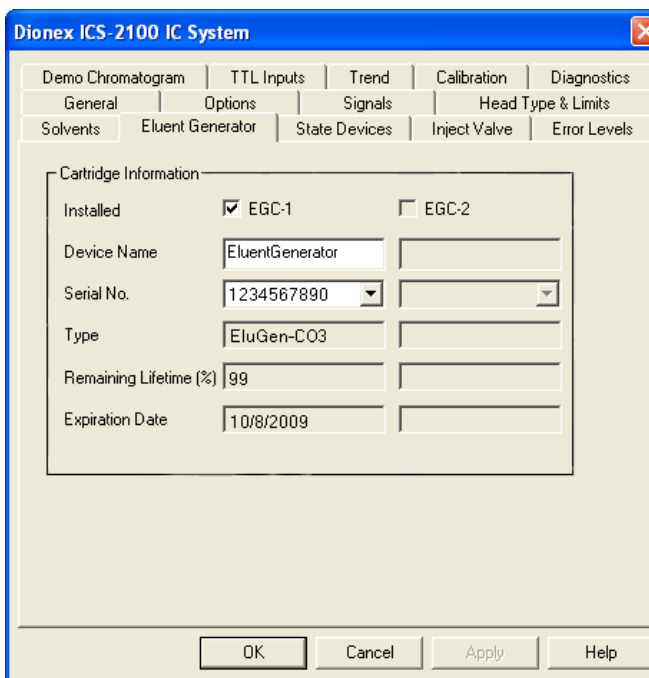

Figure 91. Eluent Generator Configuration Properties: CO₃ Example
3. Click the **Eluent Generator** tab (see Figure 91).